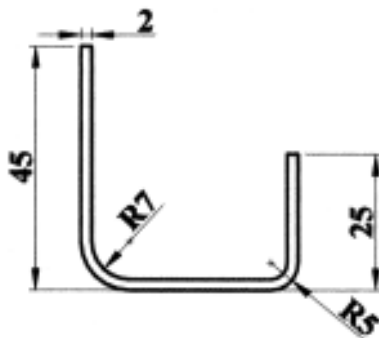

Fig: 4
4. a) Find out the developed length of the component shown in fig. 4 6
- b) What are the methods of reducing spring back ? And which would be used for the component in fig. 4 ? 6